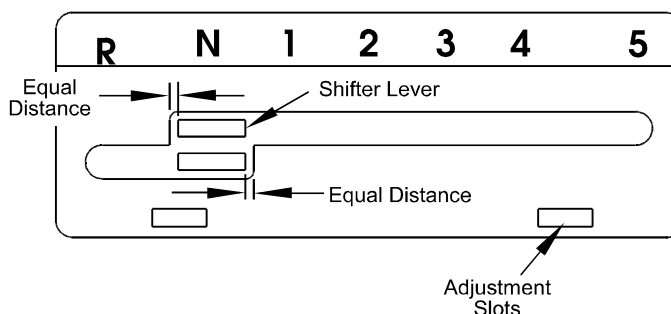

FIGURE 6
- c) Shift to neutral position. Lever should not contact the left edged of the upper slot. Push lever down. Lever should not contact the right edge of the bottom slot (See Figure 6). Shifter plate can be adjusted side to side to adjust position of lever relative to the slot in plate. Loosen the two bolts securing the shifter plate to the shifter lever legs. Adjust shifter plate and retighten bolts.